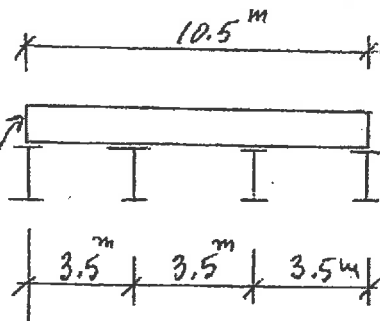

FIGURE 4
7. The cross-section of a composite steel-reinforced concrete slab floor system is shown in Figure 4. It is to be designed as simply-supported, spanning one-way, and to support heavy loads. The design span length and live load are shown in Figure 4. Assuming complete interaction between the steel beams and the concrete: